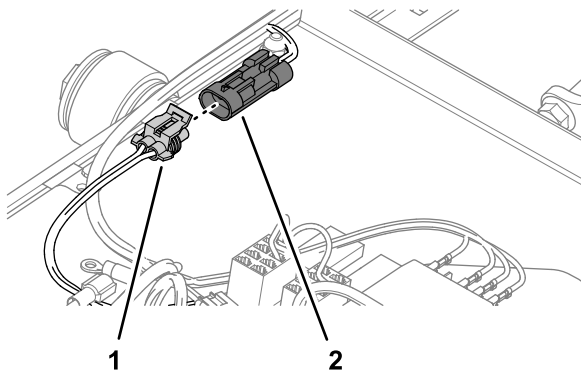

Figure 9
- At the 20 cm (8 inch) branch of the kit wire harness, connect the 2-socket connector into the 2-pin connector of the adapter wire harness for the switch panel (Figure 9).